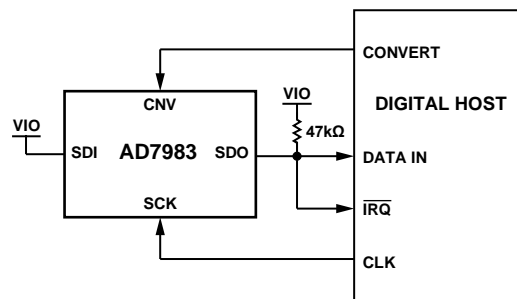
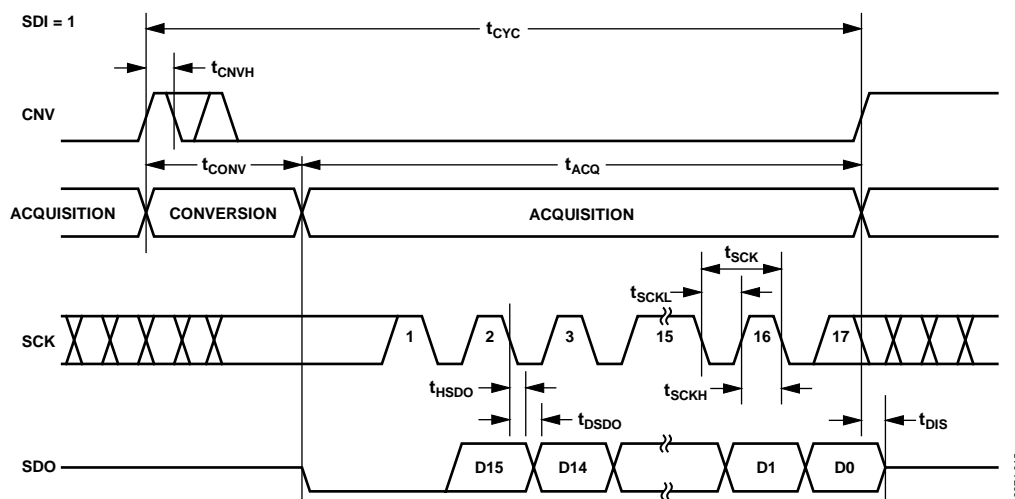

Figure 27. $\overline{\text{CS}}$ Mode, 3-Wire with Busy Indicator Connection Diagram (SDI High)
Figure 28. $\overline{\text{CS}}$ Mode, 3-Wire with Busy Indicator Serial Interface Timing (SDI High)
- In $\overline{\text{CS}}$ mode if CNV or SDI is low when the ADC conversion ends (see Figure 28 and Figure 32).
The connection diagram is shown in Figure 27, and the corresponding timing is given in Figure 28.